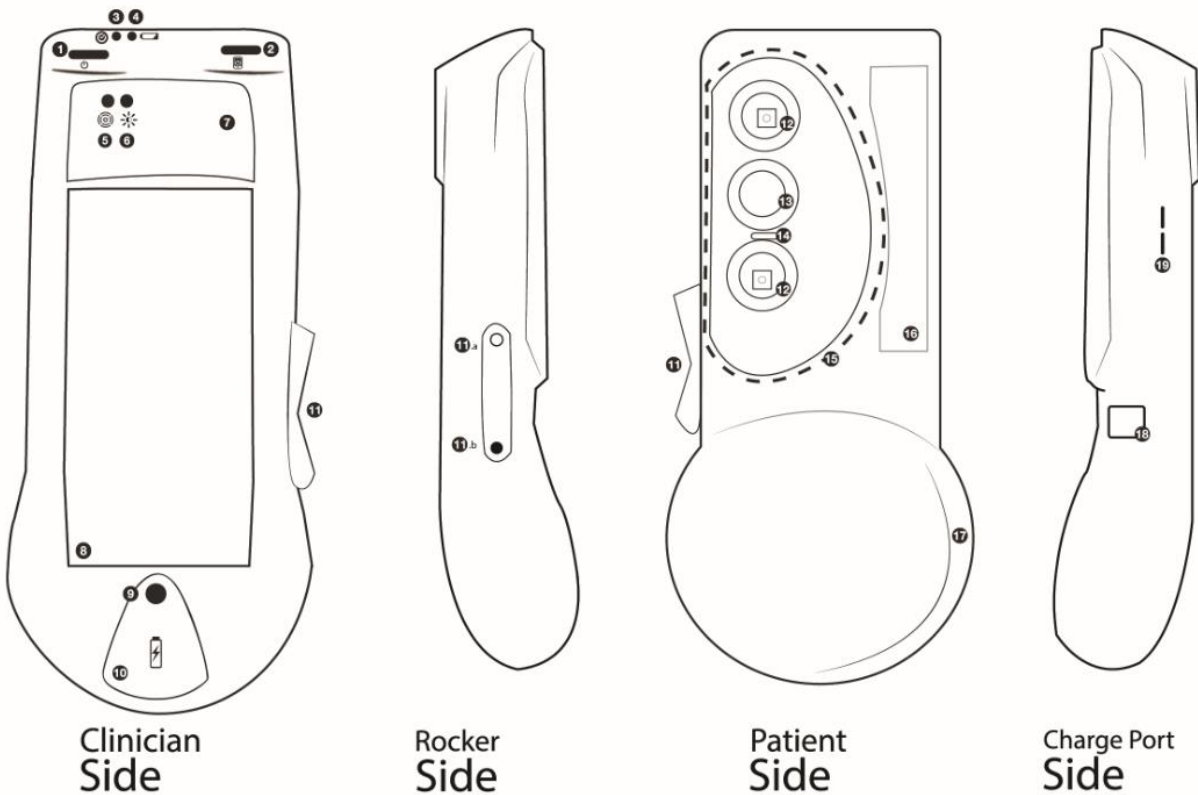

Figure 2: Clinician side, side views and Patient side of MolecuLight i:X Imaging Device
Caution Do not point the laser (from the Range Finder sensor) into eyes (Figure 2, item 14).
Keep the Illumination Zone clean and avoid covering the Violet Wavelength LEDs and camera sensor window with your fingers, as this may affect illumination and image quality (see Figure 2, item 15).